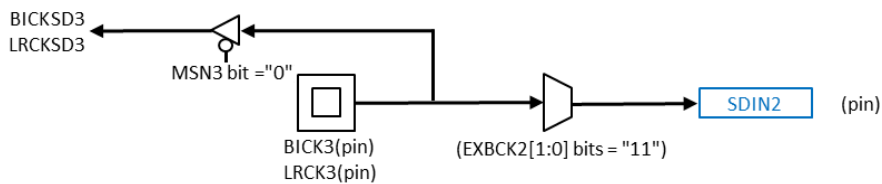

Figure 18. Clock Sync Domain Setting Example1 of SDINx Pin
e.g.) Clock sync domain 3 is selected for the SDIN2 pin when EXBCK2[1:0] bits = "011" and MSN3 bit = "0" (Figure 18).